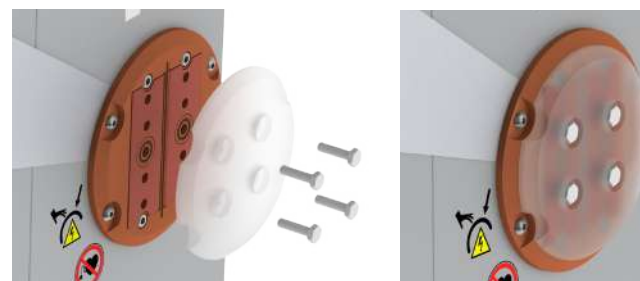

Figure 4-3: Output Inductor Mount Cover (attached)
**Step 4.** Install output mount cover on unused side(s) (Figure 4-3)